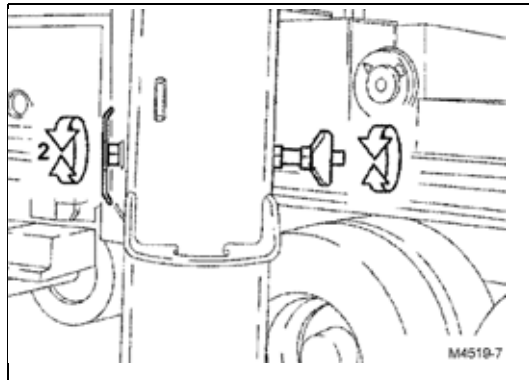

Fig. 281 Only for machine models S46SX and S47SX
1. Move the toggle (2) (**Fig. 281**) on the rear folding outriggers into a vertical position.
3. Secure the folding outriggers by moving the toggles (2) (**Fig. 281**) into a horizontal position.